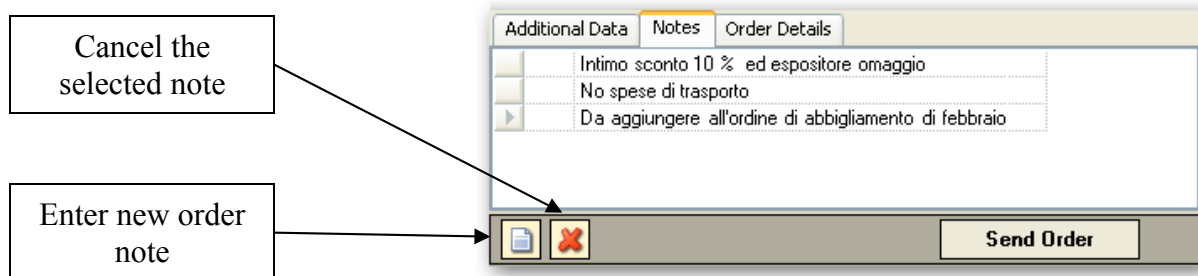

Fig. 12 - Order information notes
3. **Entering 'Order information notes':** to enter a new note, click on the bottom-left button in the window (Fig. 12). Notes are not mandatory but can be used to add additional information to the order.